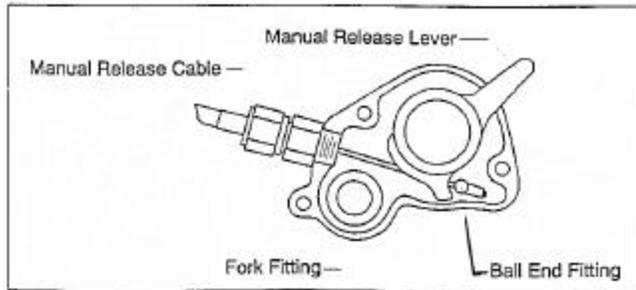

Figure 25-6. Manual Release Cable Rig
- Attach the supplied adel clamp through the end loops of the cargo hook restraining shock cord. Route the shock cord through the eyelet and over the threaded rod as illustrated in Figures 25-6 and 25-7. Secure the adel clamps to the lower screws on the cargo hook - manual release cover as illustrated. Replace the cargo hook manual release cover and safety wire.